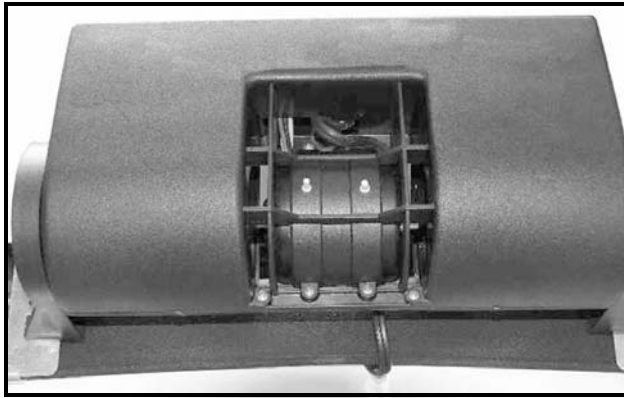

Figure 17 Route Power Wire
- 3.9. Thread the power wire under the plastic ribs of the blower (**Figure 17**).